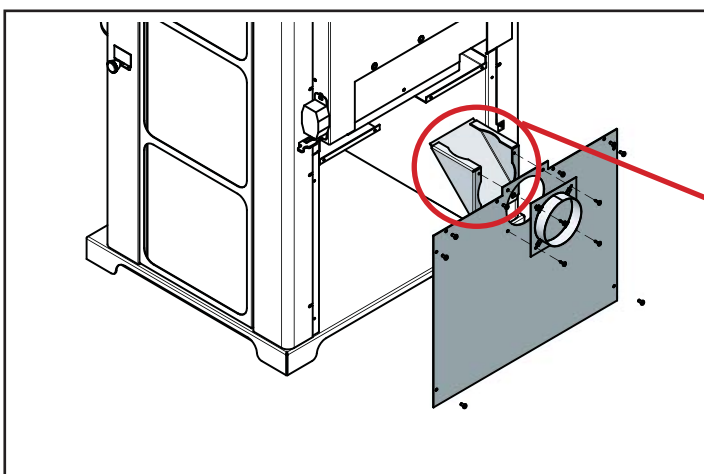

Figure 15.1
2. Remove six screws holding back plate on back of unit. Fig. 15.1
3. Remove 4 inch circular “knock-out” by twisting loose using 4 screws supplied. Fig. 15.1